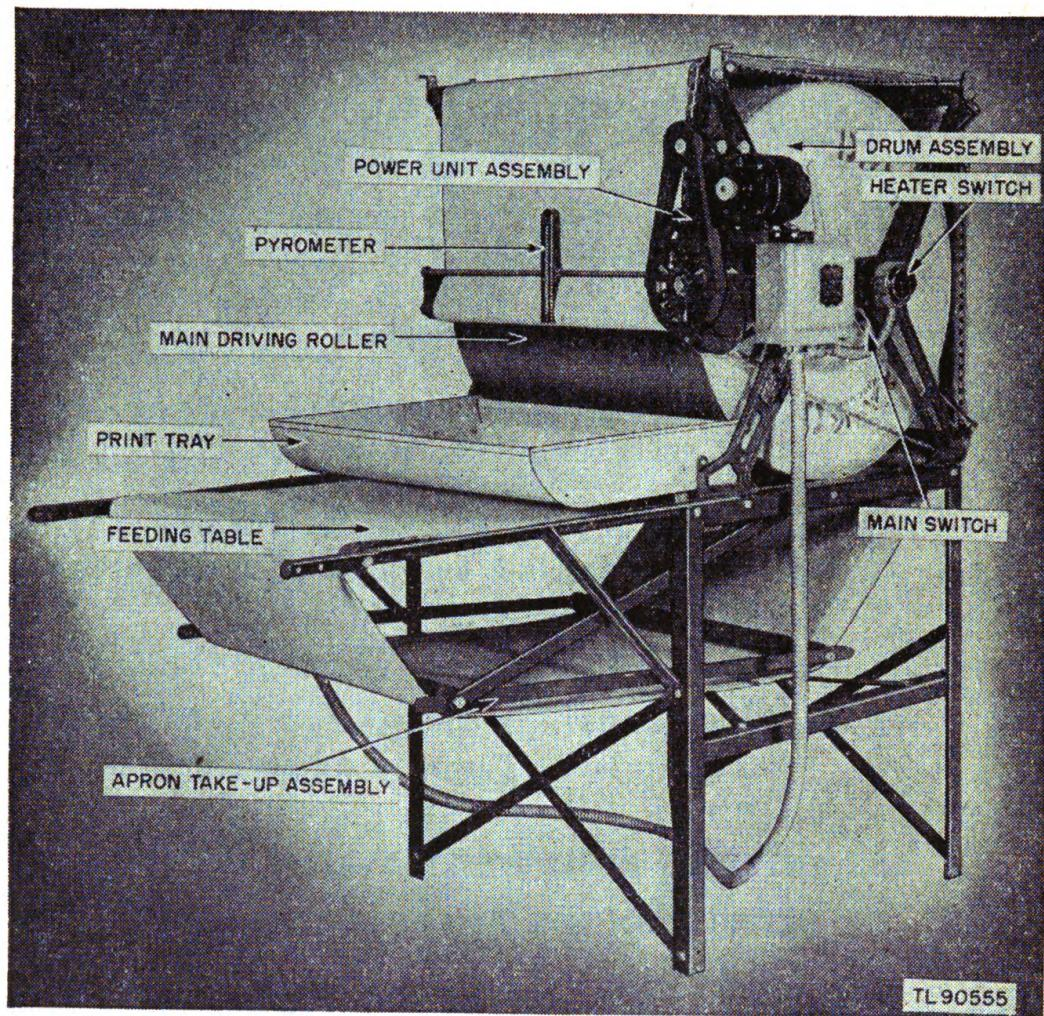

Figure 1. Dryer PH-176.
1. PURPOSE. Dryer PH-176 (fig. 1) is a complete, electrically operated unit for drying various weights and sizes of matte or semimatte photographic prints quickly and continuously. When set up for use, this unit is 63 $\frac{7}{8}$ inches long, 39 $\frac{1}{4}$ inches wide, and 61 $\frac{3}{4}$ inches high. Crated, it measures 35 by 39 by 42 inches and weighs 417 pounds.
2. COMPONENT PARTS. Dryer PH-176 consists of a base assembly to which are attached the feeding table frame (fig. 3) and apron take-up assembly (fig. 1); two side frames for the superstructure; a drum containing the heating unit assembly; the apron; the print tray; the power unit assembly; the safety or main switch box with two 30-ampere fuses and one 4-ampere fuse; one 30-ampere, 125-volt, porcelain base rotary type switch snap with settings for HIGH, MED, LOW, and OFF; and the roller assemblies.
It is held against the drum, and is carried over the main driving roller (fig. 1), standard drive rollers, and feeding table rollers. This apron carries the prints to, and holds them against, the drum.
g. Apron Take-up Assembly. An apron take-up frame assembly carries two parallel idler rollers which ride on the lower run of the apron. The entire take-up assembly is swung from the base by two integral stays (fig. 1).
h. Print Tray. A print tray is mounted between the side frames and below the stripping rod to catch the prints as they are dropped from the drum (fig. 1).
(3) Next insert the feeding table roller (the longest of the rollers furnished) through the apron loop. Fasten it by sliding the roller rod through the holes at the end of the feeding table arms. Use the holes nearest the drum. Later, when the apron has been used long enough to stretch, the feeding table roller can be advanced to the second, third, or fourth pair of holes to take up the slack.
(4) Insert the two take-up rollers inside the apron loop below the feeding table arms. Fasten the two rollers together with the horizontal bars. At the same time these bars are attached, fasten the shorter stay bars outside the horizontal bars to hold them in position. Note that the ends of the horizontal bars extend beyond the take-up rollers and thus act as a guide for the apron (fig. 1).
f. **Print Tray and Pyrometer.** Fasten the print tray (fig. 1) to the lower forward arms of the X-shaped side brackets with the three small bolts and nuts at each end of the tray. Snap the pyrometer